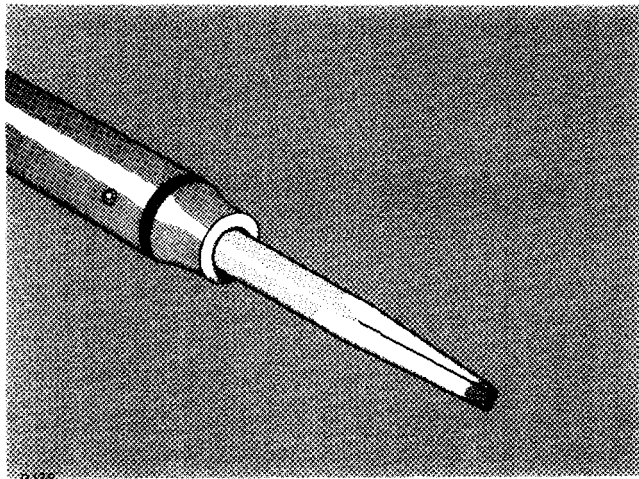

Fig. 4-1. Soldering iron tip properly shaped and tinned.
strips. Fig. 4-1 will show you the correct shape for the tip of the soldering iron. Be sure and file smooth all surfaces of the iron which will be tinned. This prevents solder from building up on rough spots where it will quickly oxidize.
2. Prepare the tip of the iron as shown in Fig. 4-1.